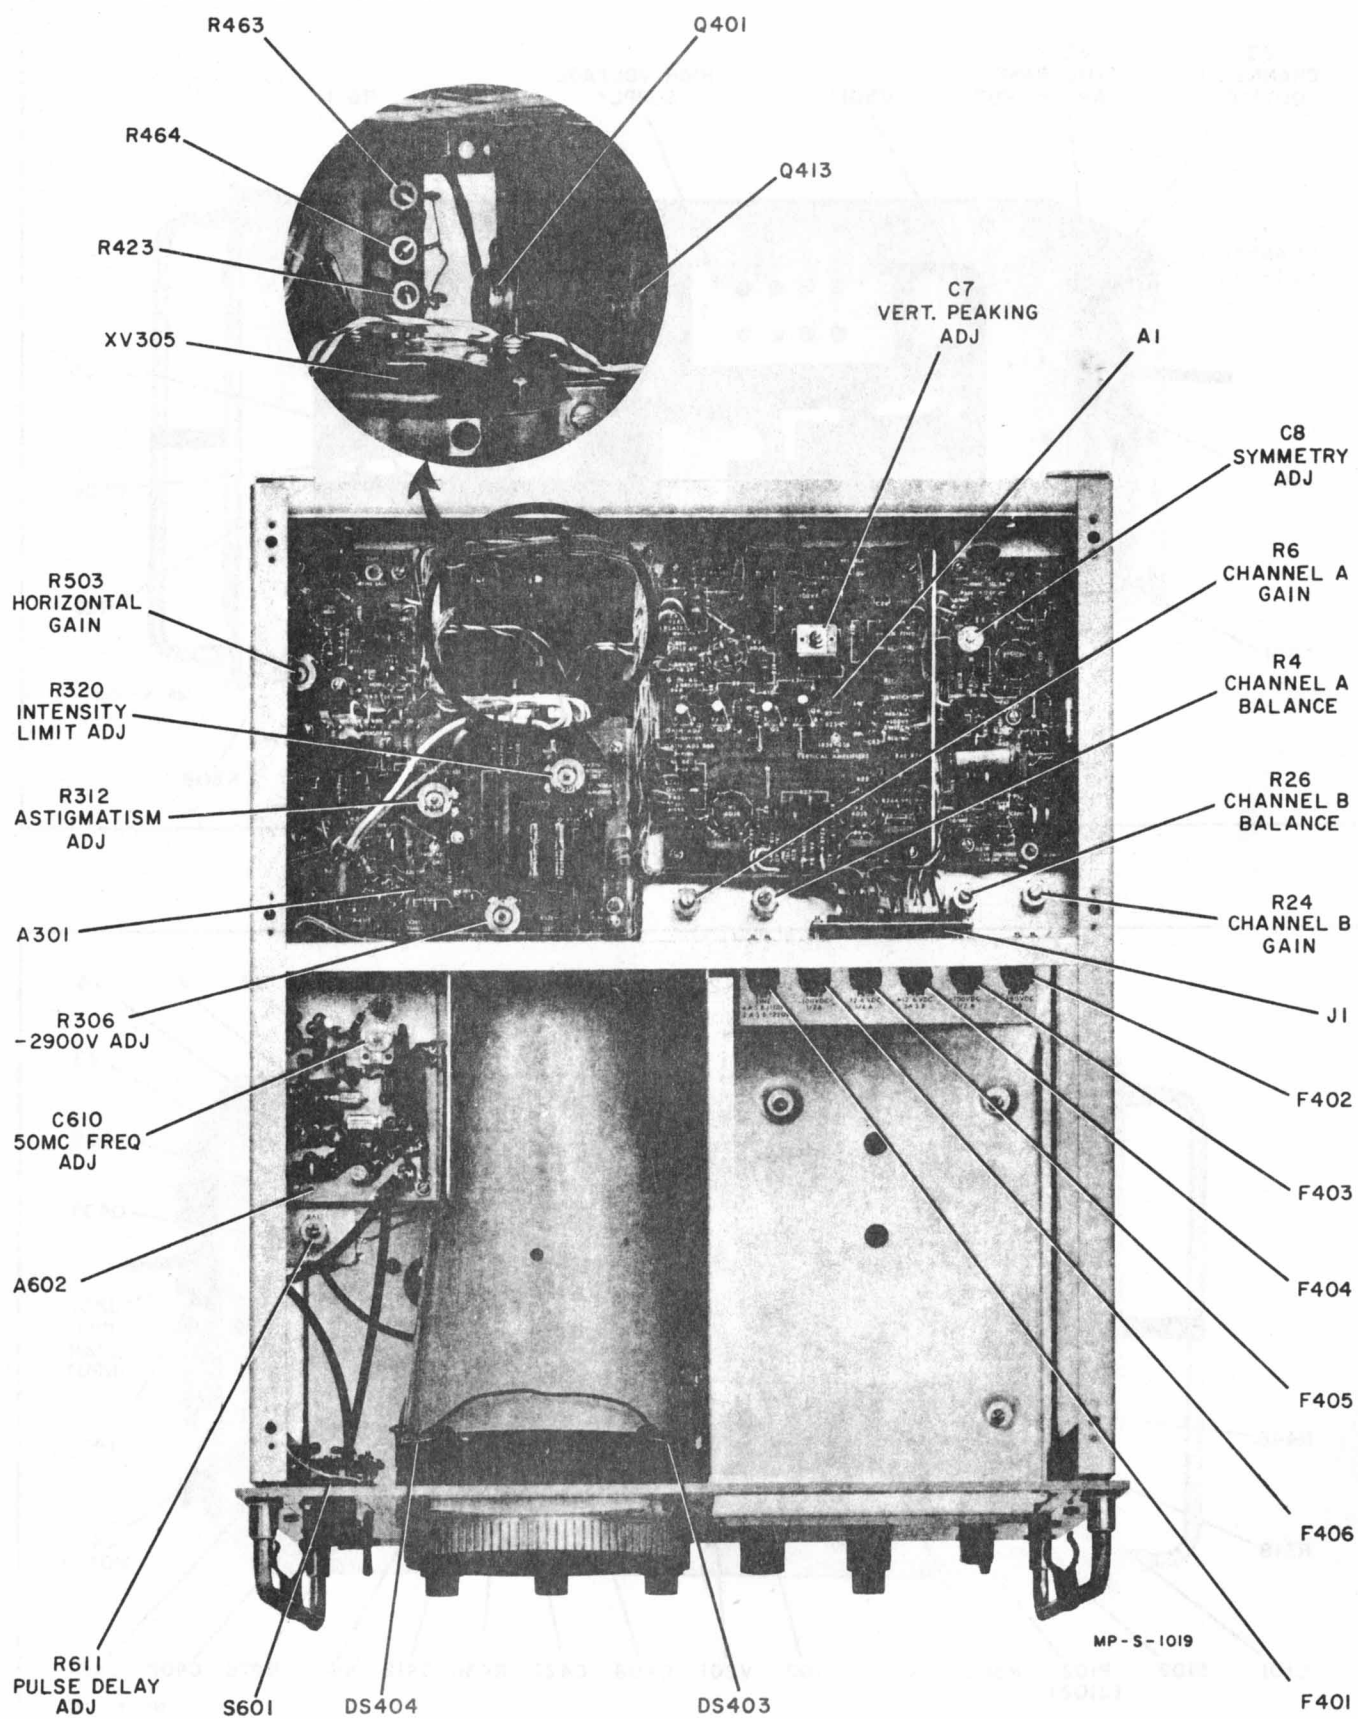

Figure 5-6. Top View, Model 185B
e. Adjust C610 (figure 5-6) to make CALIBRATOR frequency within 1 mc of signal generator frequency.